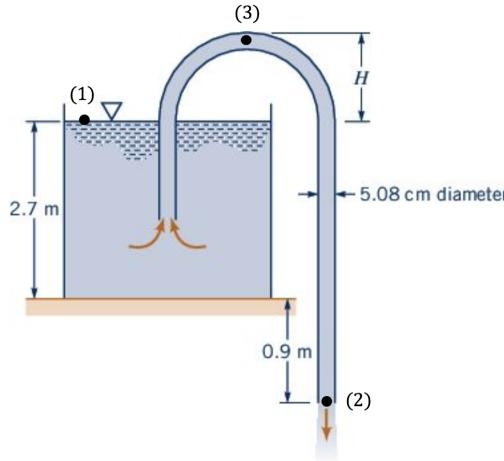

Figure 9: see problem 4
**Problem:** Water is siphoned from a large tank and discharges into the atmosphere through a 5.08 cm diameter tube as shown in Figure 9. The end of the tube is 0.9 m below the tank bottom, and viscous effects are negligible.
where  $v_2 = v_3$  because mass conservation tells us  $Q = A_2 v_2 = A_3 v_3$  and  $A_2 = A_3$ . Inserting the height difference  $z_3 - z_2 = H + 3.6 \text{ m}$  (see Figure 9) and the specific weight of water  $\gamma = 9.8 \text{ kN/m}^3$  into the remaining balance